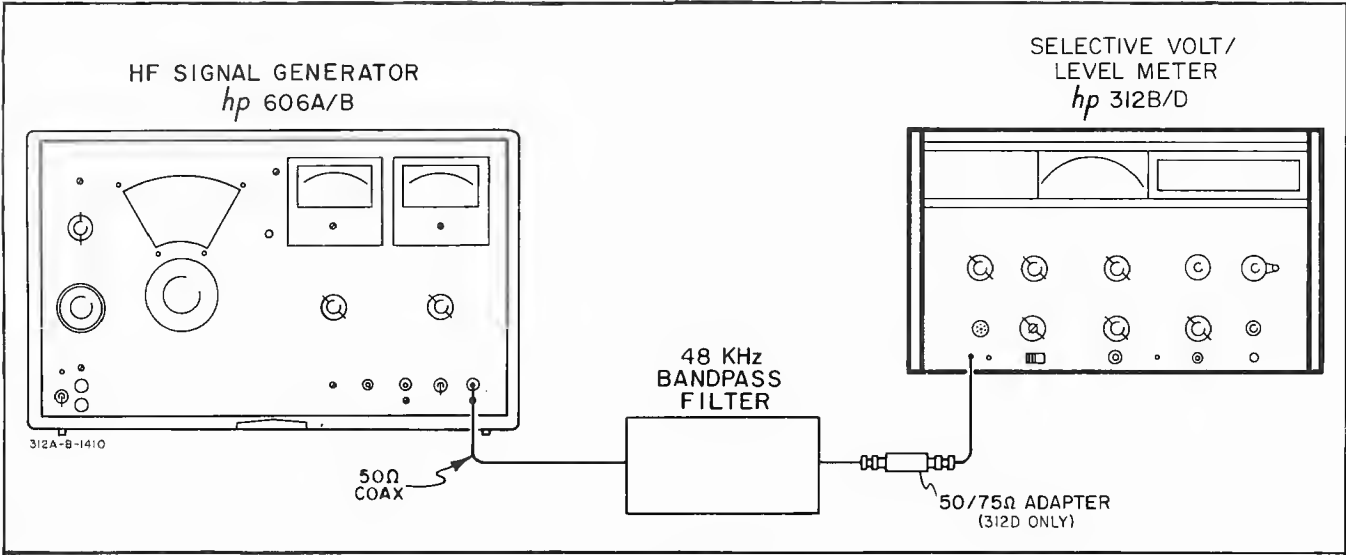

Figure 5-7. Harmonic Distortion Test Setup.
- a. Connect the equipment as shown in Figure 5-7 and set the 312B/D controls as follows: